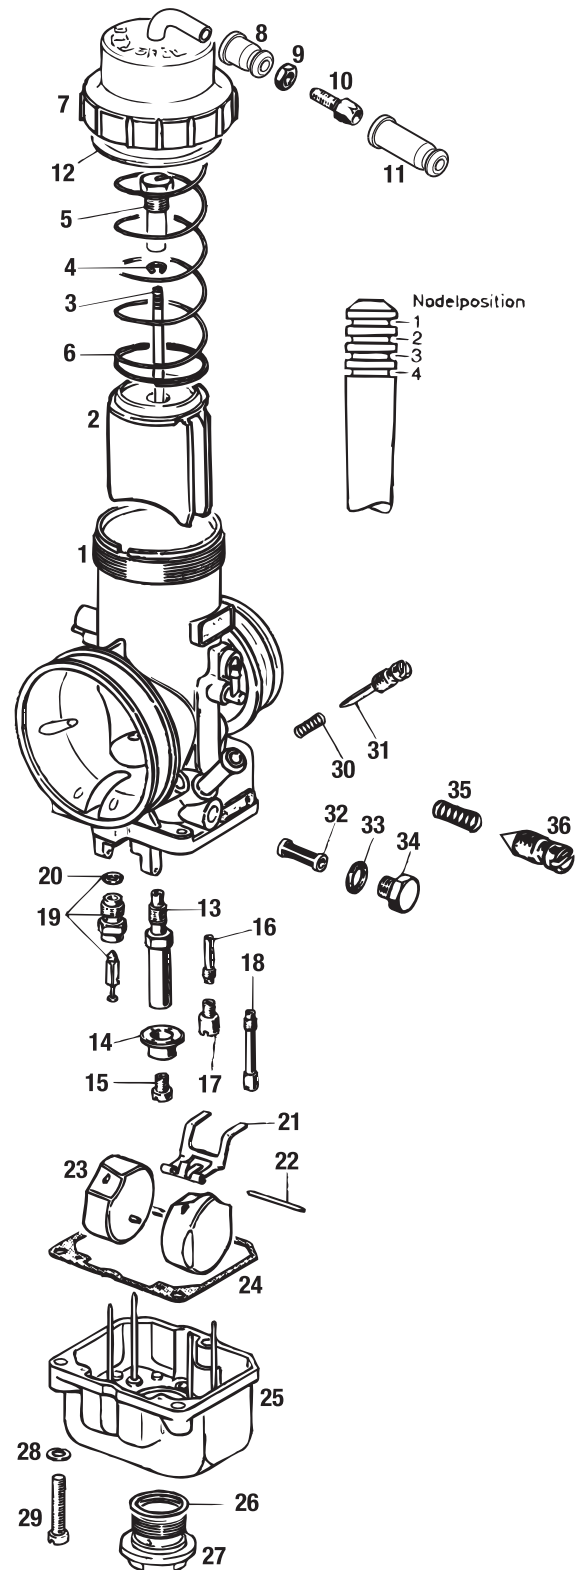

Fig. 16
➔ Install the main jet cup (14) in position as described in figure 16 and fit the corresponding main jet (see Table 1A resp. 1B).